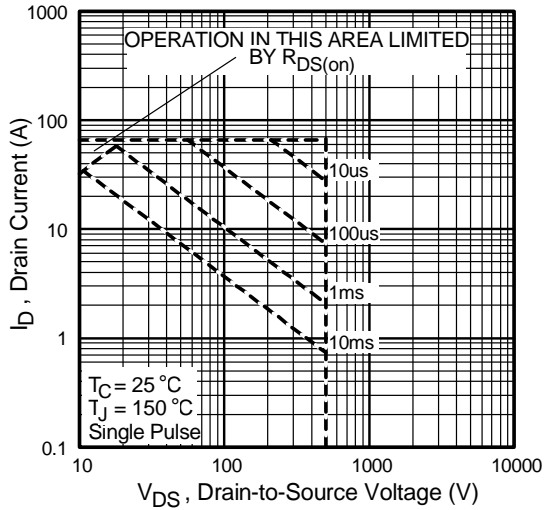

Fig 12. Maximum Safe Operating Area
- ② Starting $T_J = 25^\circ\text{C}$, $L = 3.0\text{mH}$, $R_G = 25\Omega$, $I_{AS} = 16A$. (See Figure 12).
- ③ $I_{SD} = 16A$, $di/dt \leq 347A/\mu s$, $V_{DD} \leq V_{(BR)DSS}$, $T_J \leq 150^\circ\text{C}$.
- ④ Pulse width $\leq 300\mu s$; duty cycle $\leq 2\%$.
- ⑤ $C_{oss \text{ eff.}}$ is a fixed capacitance that gives the same charging time as C_{oss} while V_{DS} is rising from 0 to 80% V_{DSS} .